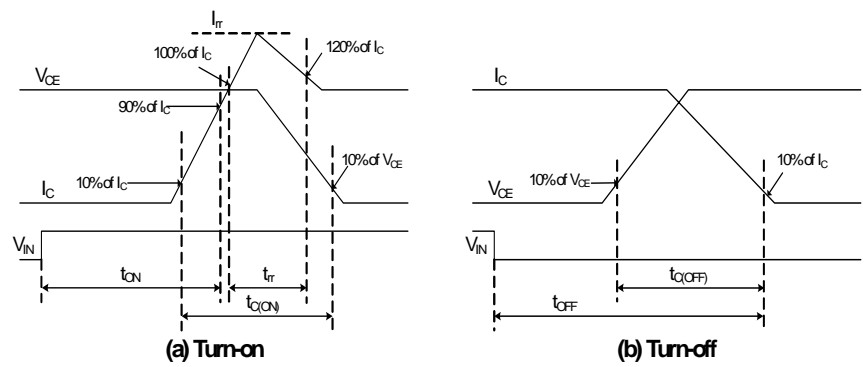

Fig. 4. Switching Time Definition
3. t_{ON} and t_{OFF} include the propagation delay time of the internal drive IC. t_{C(ON)} and t_{C(OFF)} are the switching time of IGBT itself under the given gate driving condition internally. For the detailed information, please see Fig. 4